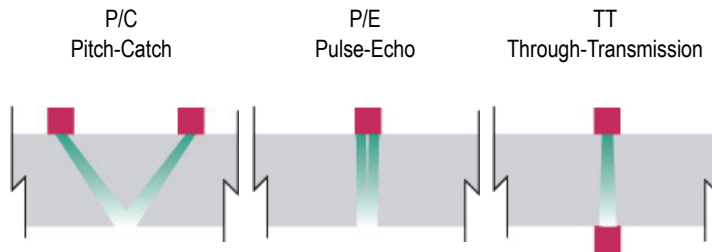

Figure 6-1 Choice of transmission/reception modes
2. From the **UT Settings > Pulser > Tx/Rx mode** list, choose the desired transmission/reception mode (illustrated in Figure 6-1 on page 152).